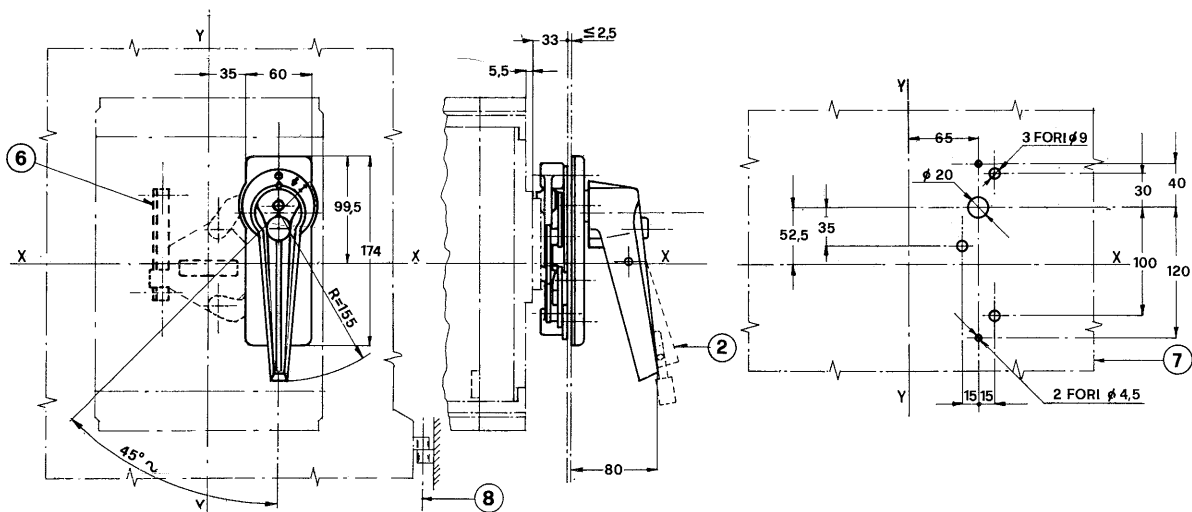

Fig. 27
- remove the breaker cover (§ 5.2.) and replace the standard lever with the shorter one (1) supplied with the mechanism
- secure the piece (2) on the breaker cover with screws (3) and washers (4), as shown on the figure
- install the breaker in the panel or enclosure taking care that the clearance between the door and the breaker is that indicated on fig. 27
- drill the door to template on fig. 27
- secure the transmission group (5) to the door with screws (6) and washers (7)
- fit the door flange (8) and gasket (9) with screws (10) and washers (11)
- fit the handle (12) on shaft (13) taking care that pin (14) enters the proper slot
- secure the handle (12) to shaft (13) with screw (15) and washer (16) then fit the screw plug (17).